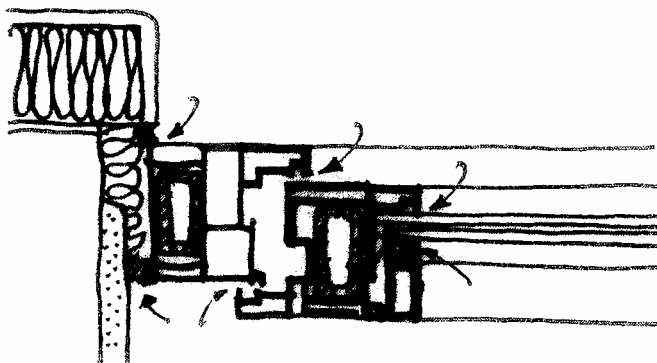

Figure 7.6 – Avoid thermal bridges
- ❖ **Follow the manufacturer's instructions and avoid creating thermal bridges with the installation.** *Fig7.6*